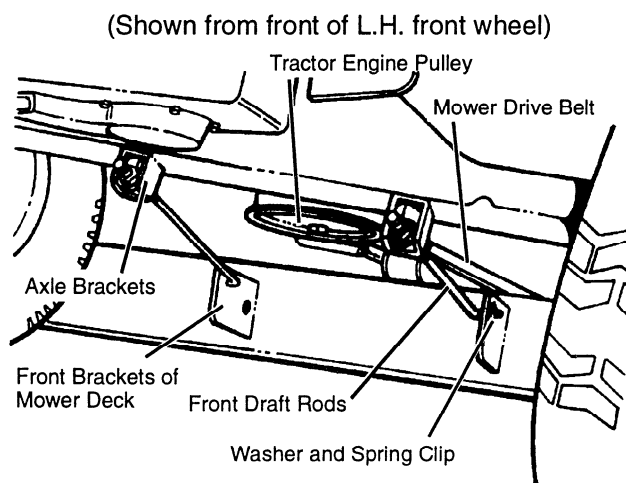

FIG. 8
- Remove the front draft rod assemblies from parts bag and insert through holes in brackets on the bottom of front axle. (See Fig. 8)
- Position mower drive belt onto tractor engine pulley, inside of the belt guides. (See Fig. 8 and 9)